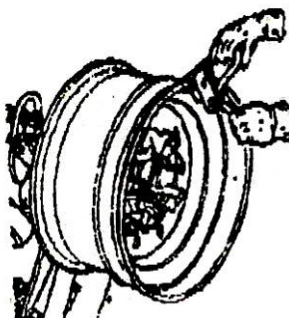

Fig2.11
- 2) You should fix the wheel circle clip in the highest place of the rim. Make sure the wheel circle clip block the wheel circle (Fig2.11).